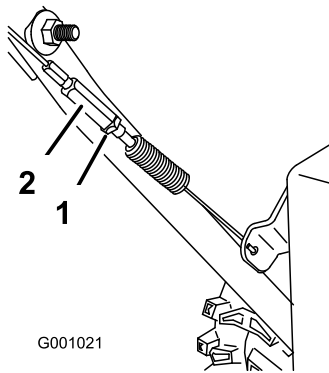

Figure 36
3. Tighten the jam nut (Figure 36).